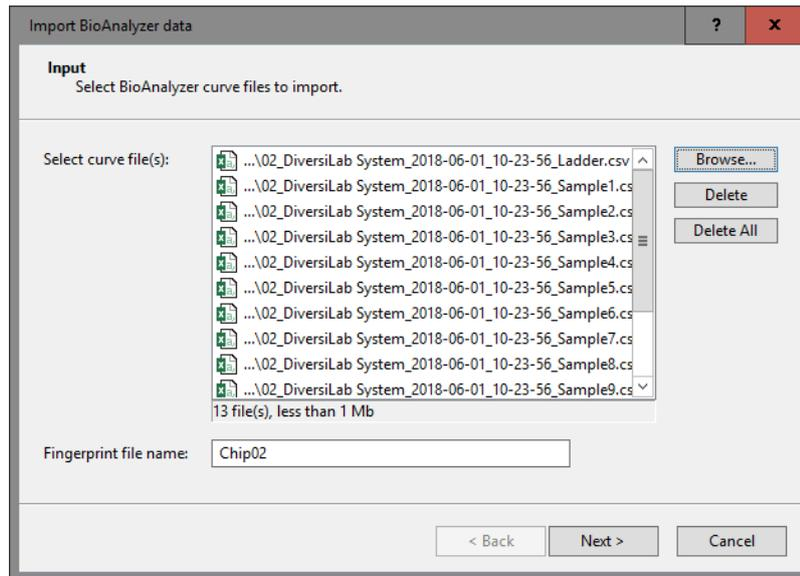

Figure 15: Chip02 curve files.
36. Press the **<Browse>** button and browse for the csv files of the Chip02 folder (see Figure 15).